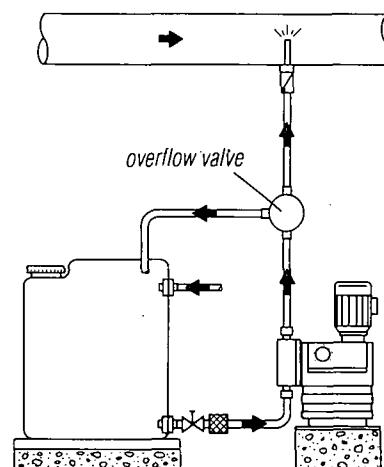

fig. 2
- For systems with backpressure at the injection point, an overpressure valve should be installed in the dosing line to protect the pump and the pipework against too high pressure build-up. (see fig. 2)